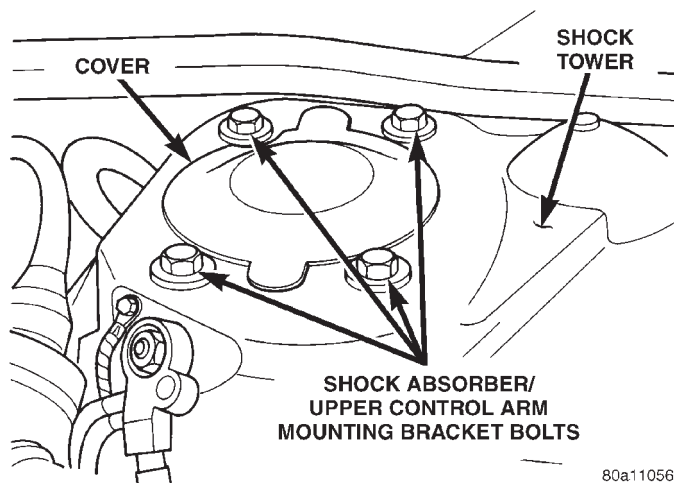

Fig. 16 Shock Absorber Attachment To Shock Tower
(8) Remove the clevis from the shock absorber by carefully tapping it off the shock absorber using a soft (brass) drift.
(9) Remove the 4 bolts (Fig. 16) attaching the upper control arm/shock absorber mounting bracket to the shock tower of the vehicle.